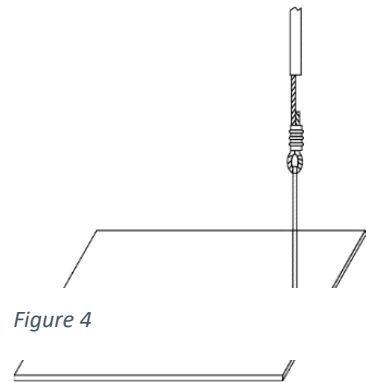

Figure 4
- Flat storage building option. See Figure 4.